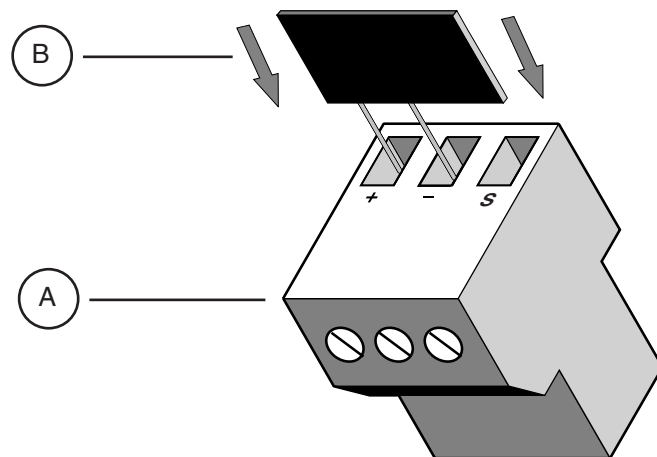

Figure 13 Installing the MCTAS-485 terminator.
1. Using a wire clipper, clip off two of the four wires on the MCTAS-485 terminator (Figure 13 on page 13, B). It does not matter whether you clip the left pair or right pair.
2. Insert the two remaining wires into the + and – holes on the Enercept meter's removable RS-485 terminal block (Figure 13 below, A).